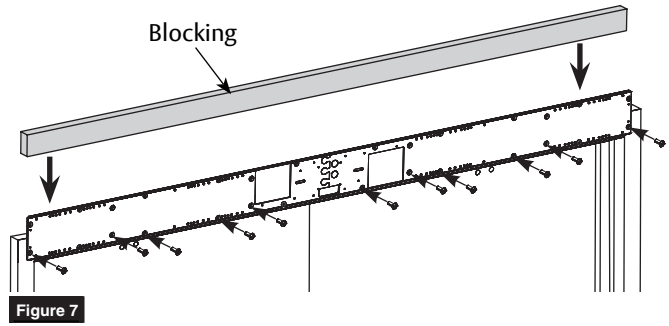

Figure 7
- Secure backplates to frame using eleven (11): 1/4-20 x 5/8" machine screws or 1/4 x 1-1/2" self-drilling screws from screw packs in Boxes 1 and 2. (Figure 7)
NOTE: It is important to properly secure top edge of backplate. Use of blocking (supplied by others) or shims (provided) to fill gap between backplate and wall above header is **HIGHLY** recommended. Material must comply with local codes. Failure to properly secure top of backplate could result in operator being allowed to 'rock' during operation. This could result in damage to operator and diminish operator function. (Figure 7)